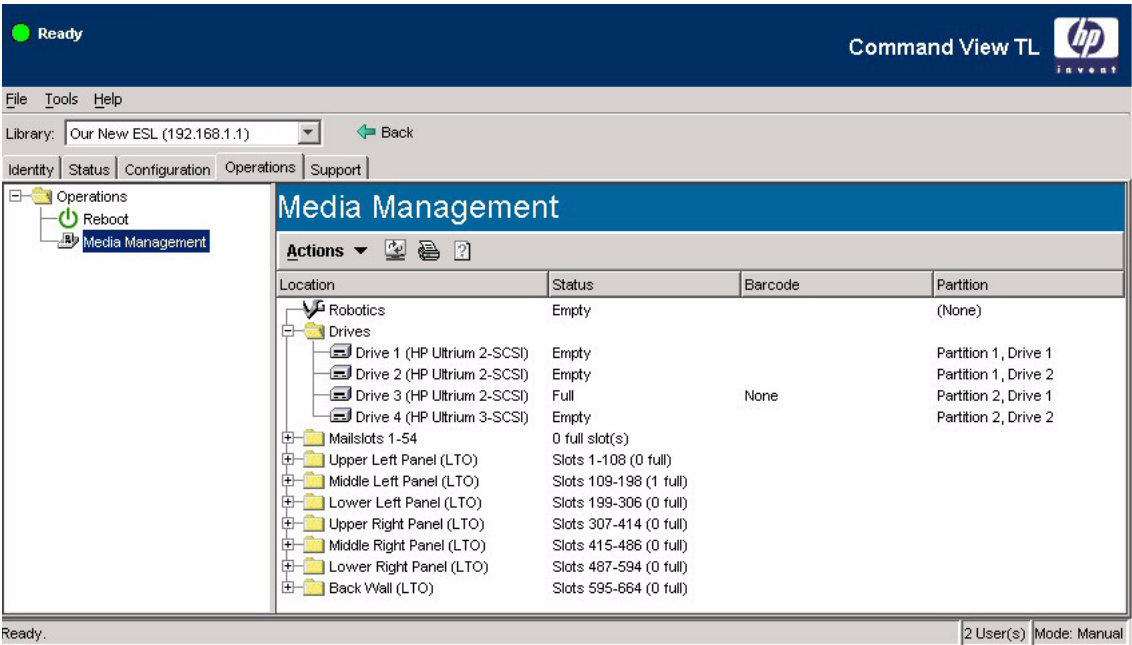

Figure 10 Media Management window
- Partition column—Displayed only if the library has been partitioned. The column indicates which partition the corresponding drive, slot, or mailslot has been assigned to, and its position in the partition. For example, in Figure 10, drive five is shown as being the first drive in partition one.